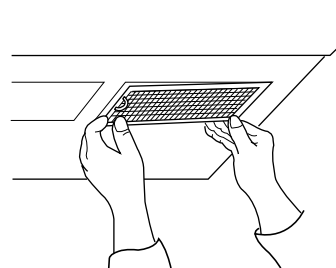

Figure 31
6. Grasp filter screen with one hand holding the ring and the other hand holding the opposite end. Insert the end of the filter screen without ring into the opening and slide towards the side of the microwave oven. Insert ring end of filter screen into the opening and slide entire screen towards the other side of the microwave until screen is securely in position. Repeat for other filter screen. See Figure 31.